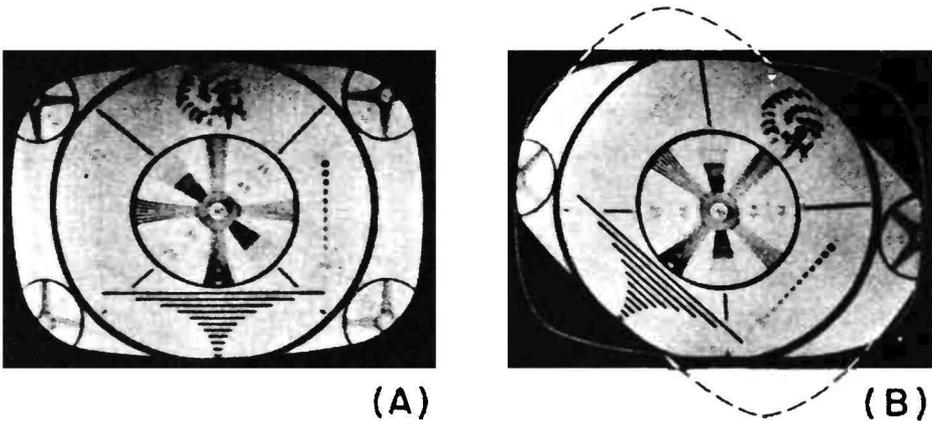

Fig. 4-1. (A) Test pattern properly aligned with mask. (B) Test pattern tilted, due to misalignment of deflection yoke.
The raster should just overlap the edges of the screen mask. It should be level and square with the mask, as shown in Fig. 4-1 (A). Figure 4-1 (B) indicates the pattern obtained when the deflection yoke is improperly tilted with respect to the axis of the picture tube. By examining the horizontal sweep lines of the raster, vertical linearity and focus (which are considered in detail in Chapter 6) can be checked with the raster alone. If the picture is well focused, the sweep lines will show up clearly and sharply when the raster is examined at close range. Proper vertical linearity is indicated by the equal spacing of the sweep lines from the top to the bottom of the raster. Further checks on linearity can be made with either a received station test pattern or a cross-hatch generator, as explained in Chapter 5.